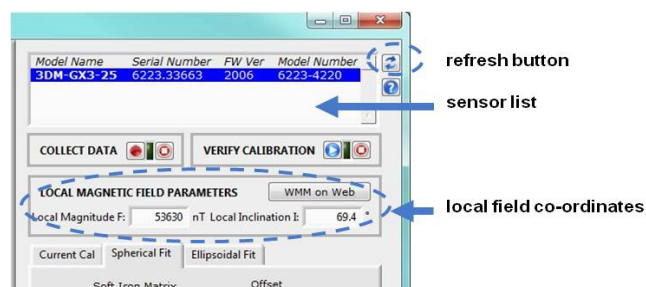

Figure 24 - Sensor Menu
2. Enter the Local Magnetic Field information (Figure 24 - Sensor Menu) for the sensor to account for magnetic influences inherent to the sensor's geographic location on the Earth. As needed, use the WMM on Web button to access a World Magnetic Model (WMM) calculator on the British Geographic Survey website. This site, and similar sites, generate Local Magnitude F and Local Inclination I values based on latitude and longitude entries. In the calculator solution, these values will be found in row MF, column F and row MF, column I, respectively.
3. The sensor should have automatically appeared in the sensor list (Figure 24 - Sensor Menu). If not, use the Refresh button to query it and then select the sensor.